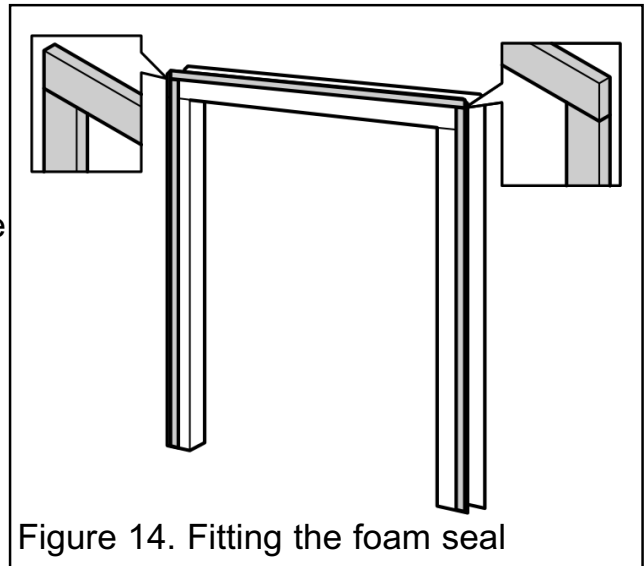

Figure 14. Fitting the foam seal
10. The long length of self adhesive foam seal supplied with the fire will need to be fitted to the outer rear edges of the side and top pieces of the spacer frame. Ensure that there is no gap between the foam seals where they meet at the top flange (See figure 14).